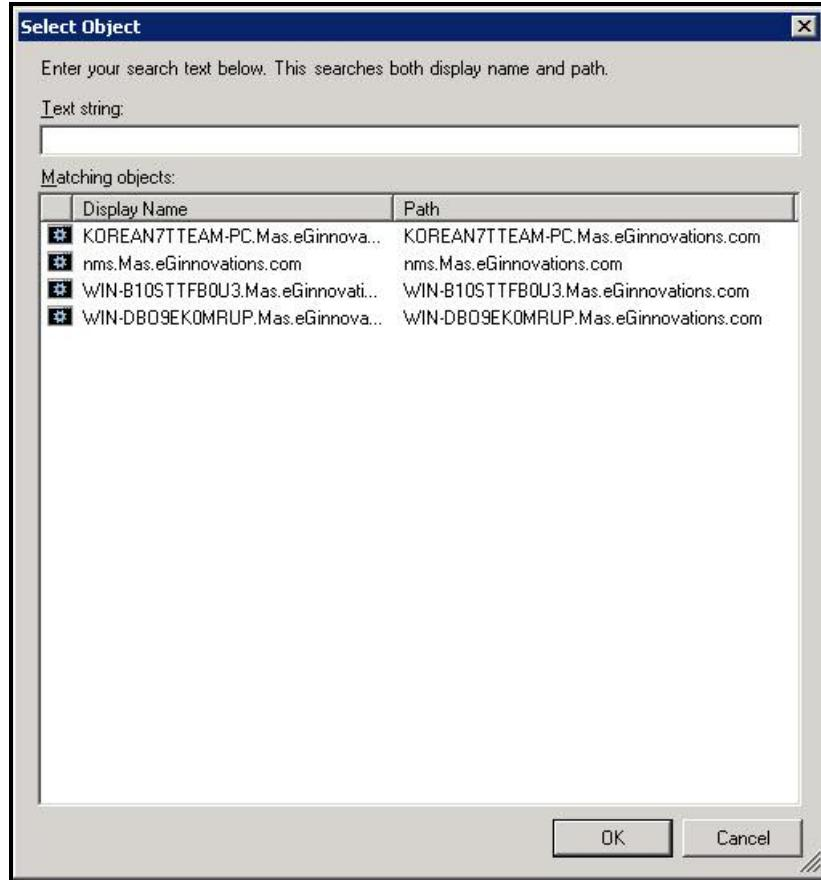

Figure 2.19: Choosing the server on which the eG SCOM Connector is running
7. Figure 2.19 then appears. Like before, from Figure 2.19, select the server on which the eG SCOM Connector service is running, and click the **OK** button therein.